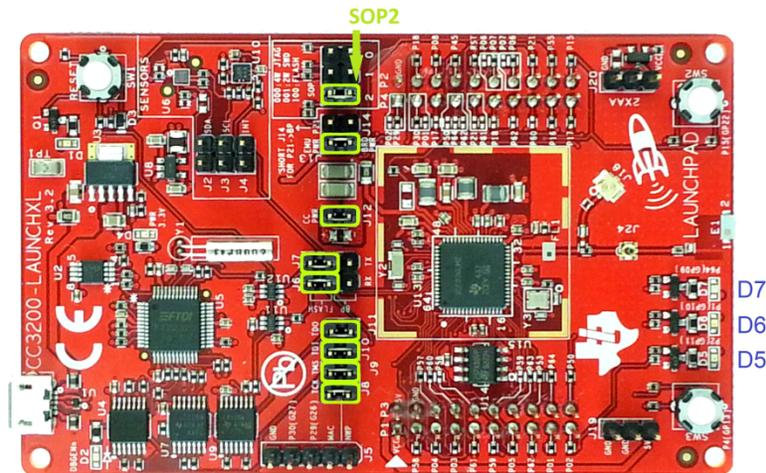

Figure 9. CC3200-LAUNCHXL Default Jumper Connections
2. Assuming the jumpers on the CC3200-LAUNCHXL are connected as shown in Figure 9, remove jumpers J6, J7, J8, J9, J10, J11, J12, and J15.